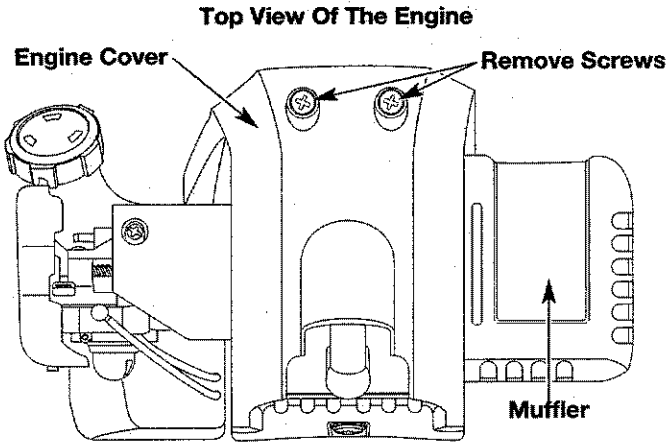

Fig. 50
2. Remove the two (2) screws on top of the engine cover with a phillips screwdriver (Fig. 50).
6. Remove the engine cover (Fig. 50).